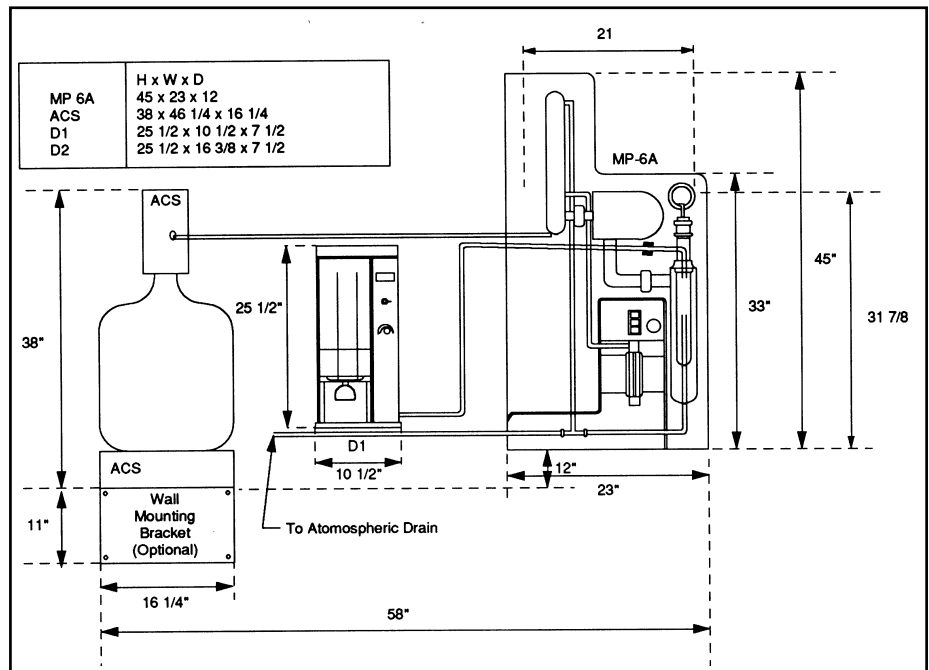

Figure 10
Locate ACS tube (Z) and Thomas clamp (D) in the parts box. Assemble to the tubing from the collection system as shown in Figure 10.